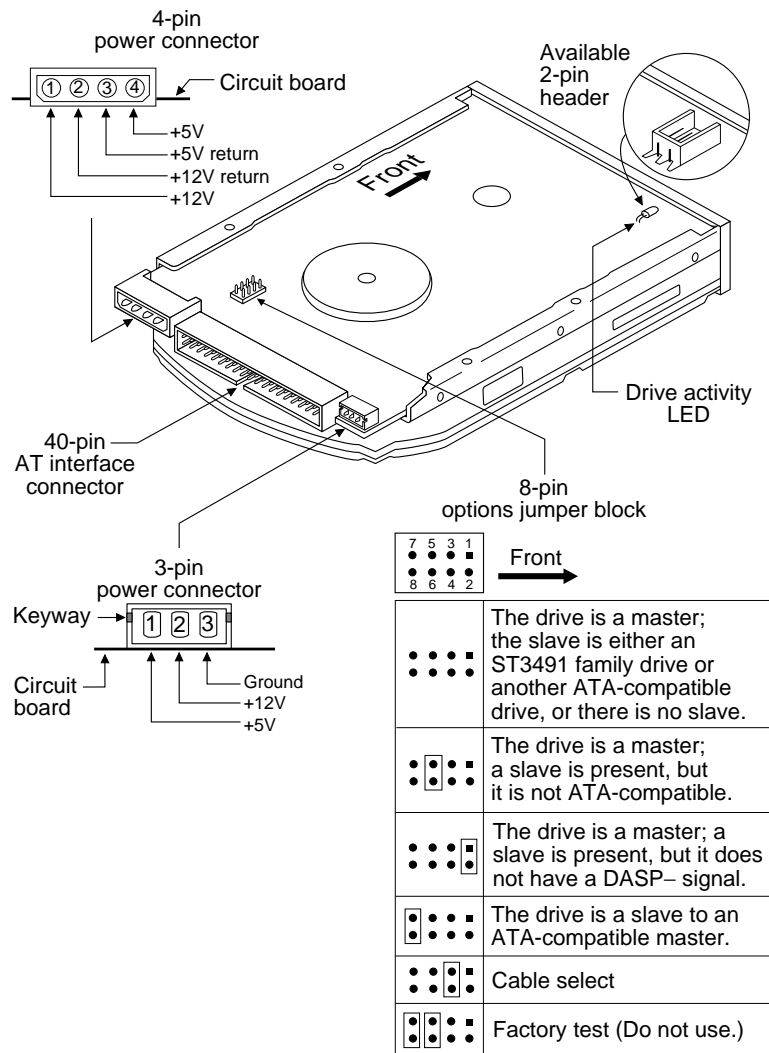

Figure 6. Connectors and jumpers
Figure 6 shows the location of the options jumper block. The jumper block accepts 2-mm (0.079-inch) jumpers.
In a two-drive system, one drive must be configured as the master and the other as the slave. In a single-drive system, configure the drive as a master. To configure the drive as a master or a slave, install jumpers according to the table in Figure 6 on page 19.
- Install a jumper on pins 3 and 4 of the options jumper block as shown in Figure 6 on page 19. When a jumper is installed in this position, the drive ignores master/slave jumpers installed on pins 7 and 8.
Both options are shown in Figure 6 on page 19.